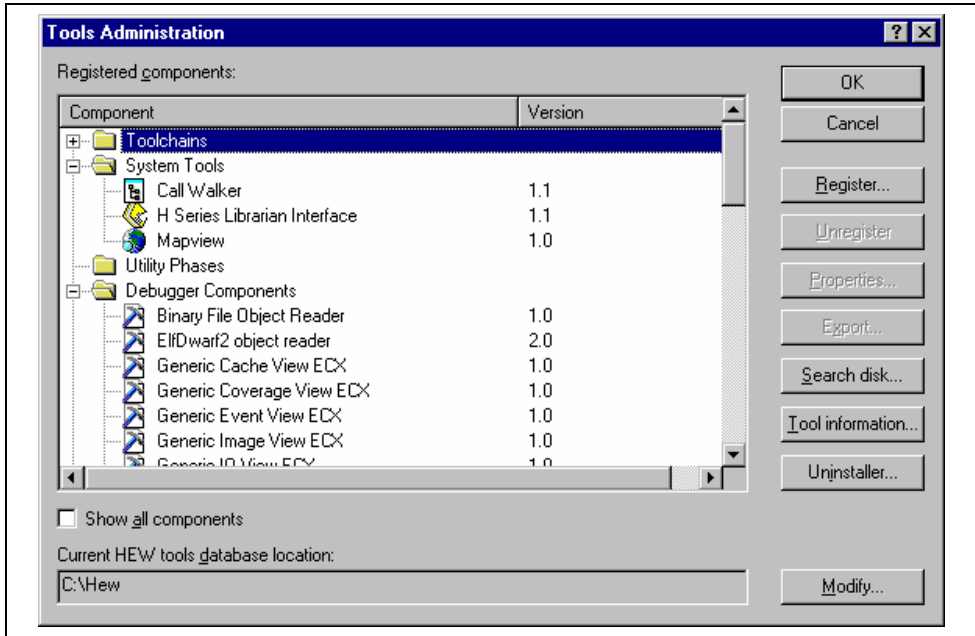
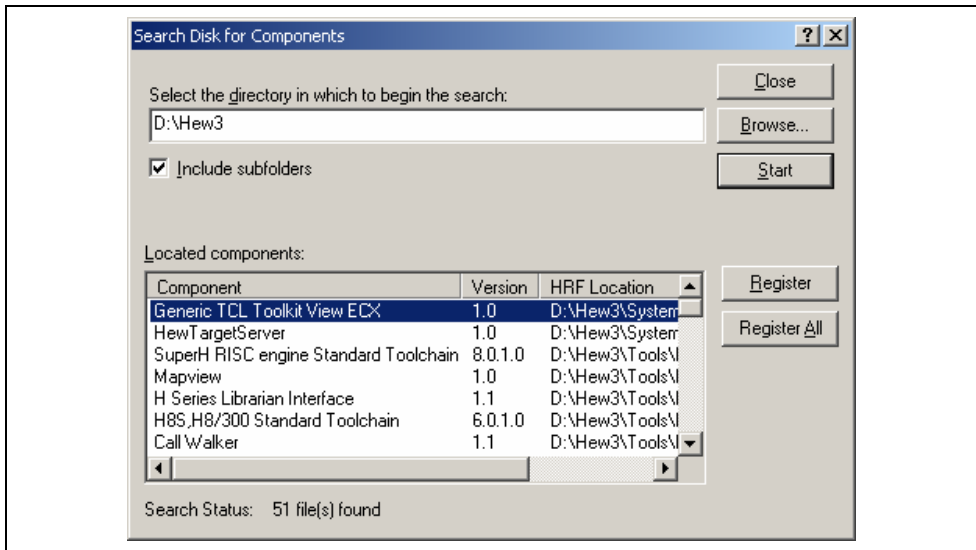

Figure 5.1: Tools Administration Dialog
Figure 5.3: Search Disk for Components Dialog
You control the components, which can be used by the High-performance Embedded Workshop via the “Tools Administration” dialog (figure 5.1), which is invoked via **[Tools->Administration...]**. Modification of the “Tools Administration” dialog box is only possible when no workspace is open, while only reference is possible when a workspace is open.
In order to use a component with HEW it must first be registered. The “Tools Administration” dialog (figure 5.1) shows all currently registered components. To access it, ensure no workspaces are open and then select **[Tools->Administration...]**. If you attempt to access tools administration when there is a workspace open the tools administration dialog is opened but cannot be modified. When HEW is installed by default any new tools are automatically registered.
1. Click the “Search Disk...” button on the “Tools Administration” dialog (figure 5.1). The “Search Disk for Components” dialog will be displayed (figure 5.3).